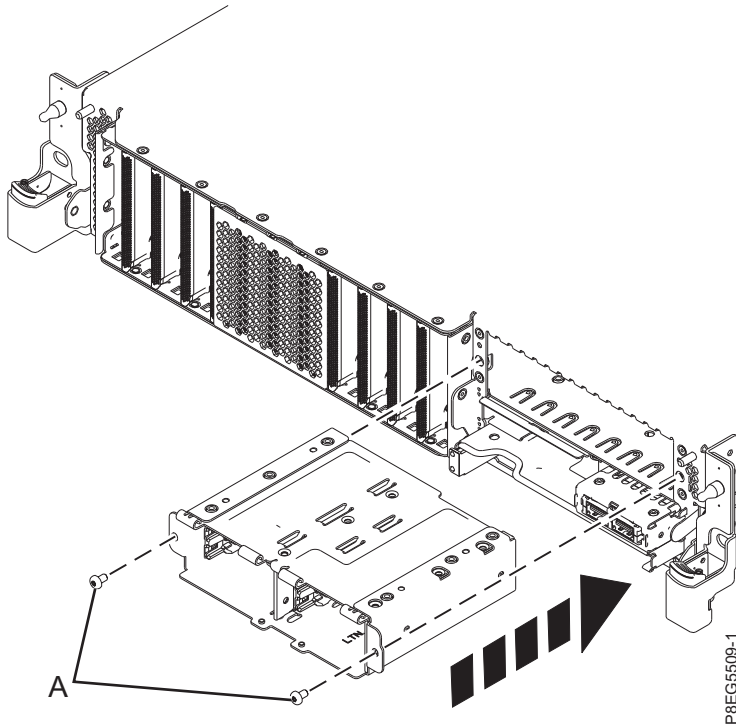

Figure 6. Reinstall SSD cage
4. If your system has the expanded function disk drive backplane, slide the SSD cage back into position. Install and tighten screws (A). See Figure 6 on page 8.